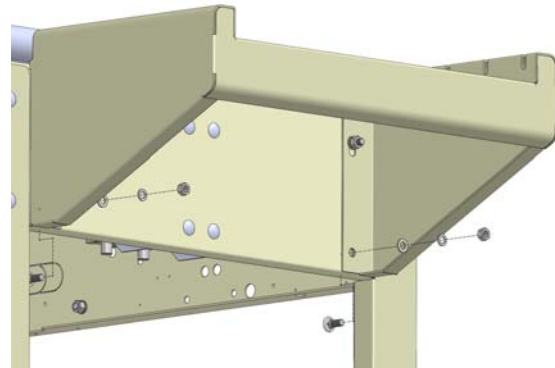

Figure-9C
- Once roller table is attached to the machine base using the two mounting studs, install remaining two (2) mounting studs with hardware included through the bottom two holes on the machine base and roller table. Per **Figure-9C**.
- After all four (4) mounting studs and included hardware have been installed, tighten all hardware to avoid roller table instability then install rollers on to table.